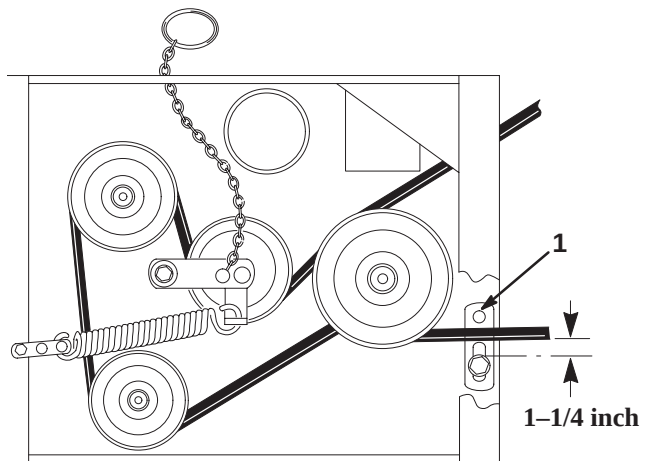

Figure 60
13. Check the belt guide under the engine frame for the proper adjustment (Fig. 60).
Note: The distance between the belt guide and the mower belt should be 1-1/4 inch (32 mm) when you engage the mower belt (Fig. 60). Adjust the mower belt as necessary. The disengaged belt should not drag or fall off the pulley when the guides are properly adjusted.